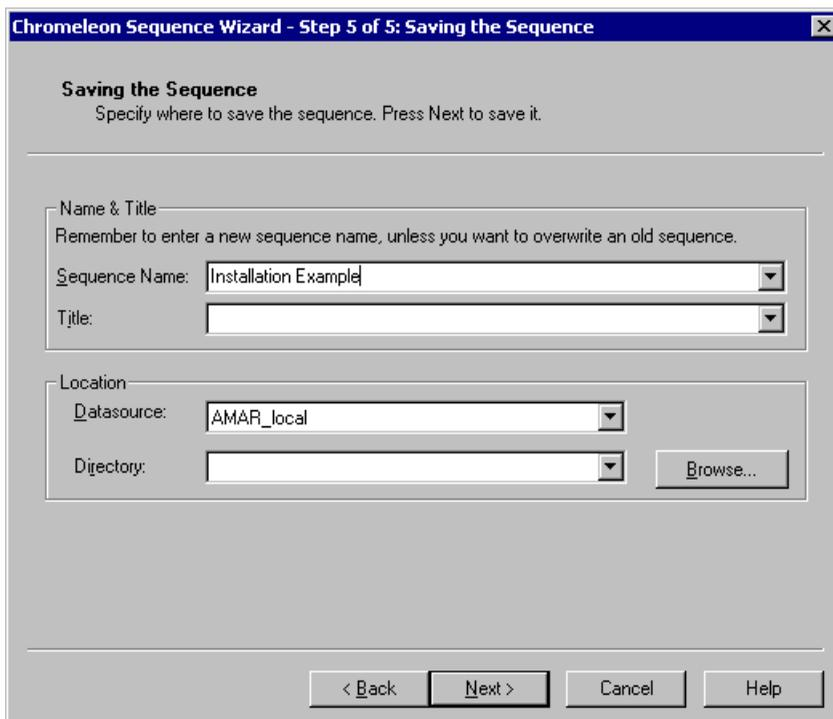

Figure B-54. Example: Sequence Wizard Step 5
17. Enter a name for the sequence and a location (see the example in Figure B-54).